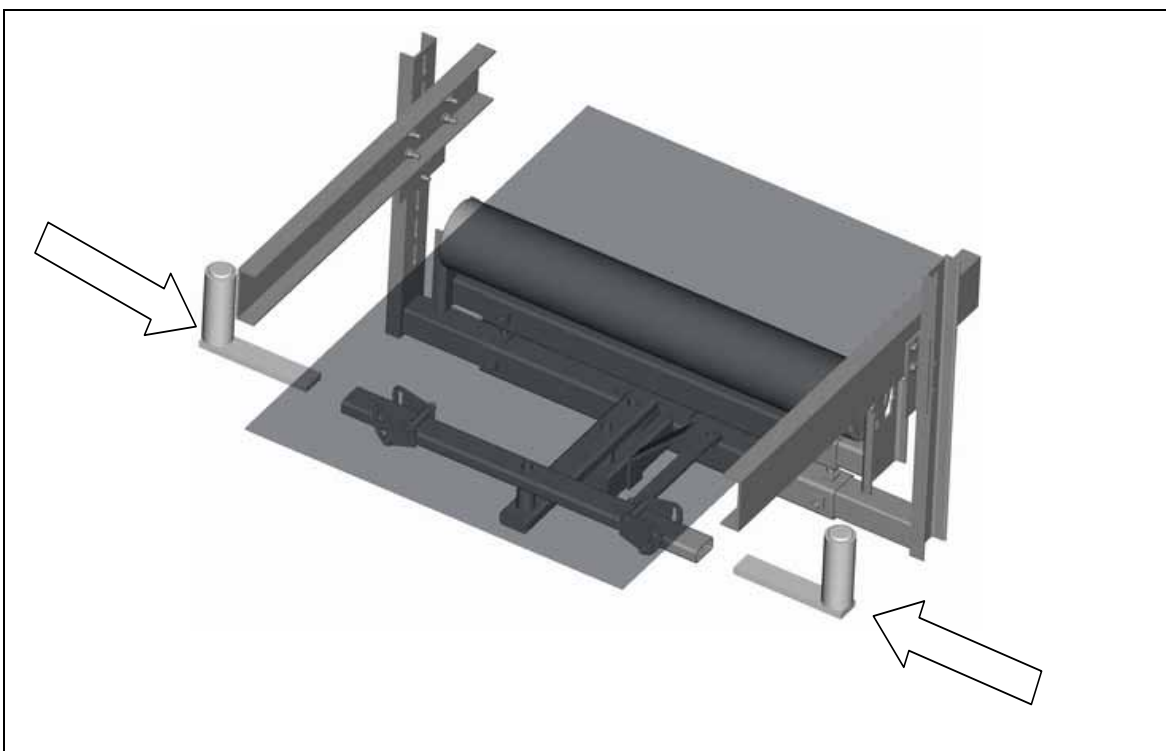

Fig. 12: Push in the sensor roller unit
14. Push the sensor roller unit into the guide unit from both sides (Fig. 12).